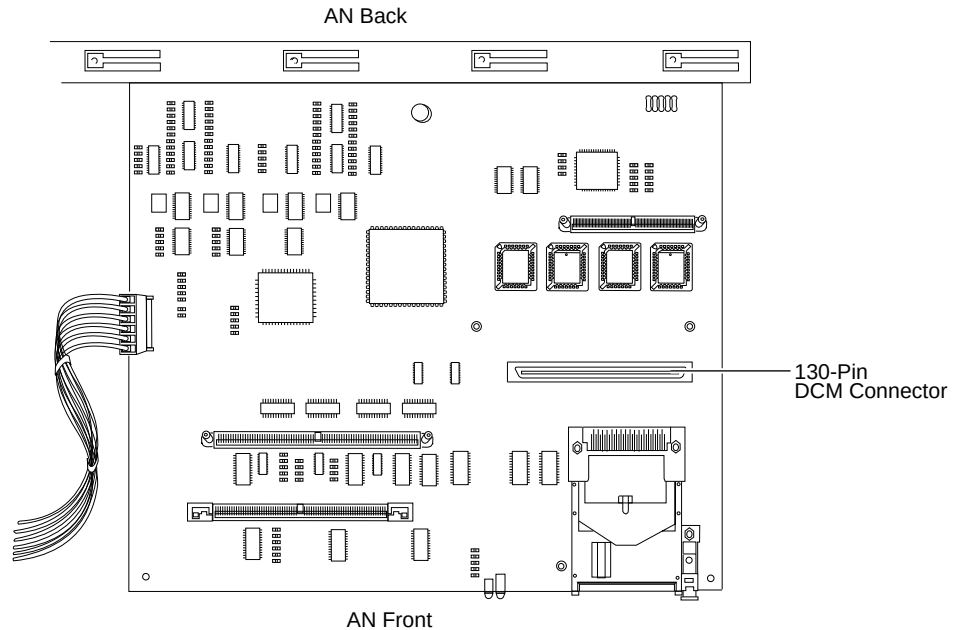

Figure 1-4. DCM Base Board Connector (Installed Bracket Not Shown)
1. **Locate the 130-pin DCM connector on the base board (Figure 1-4)**